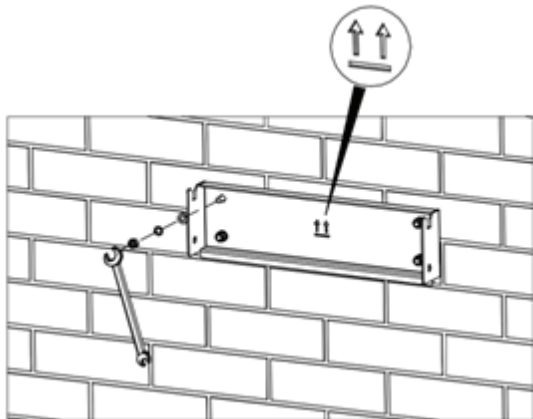

Figure 13 Fix the installation bracket
(4) Fix the installation bracket onto the expansion bolts and ensure the installation is firm enough (tightening torque is $13\text{N}\cdot\text{m}$). As shown in Figure 13.